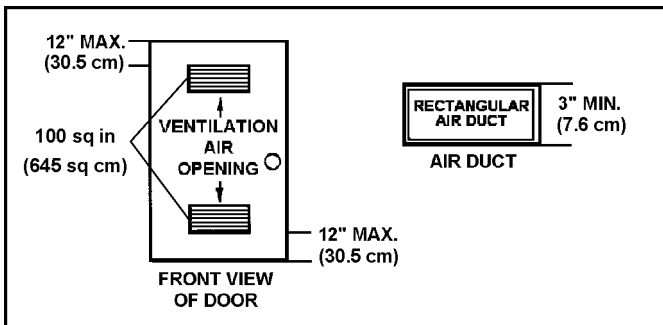

FIGURE 5.
A. ALL AIR FROM INSIDE BUILDINGS: (See Figure 5 and 6)